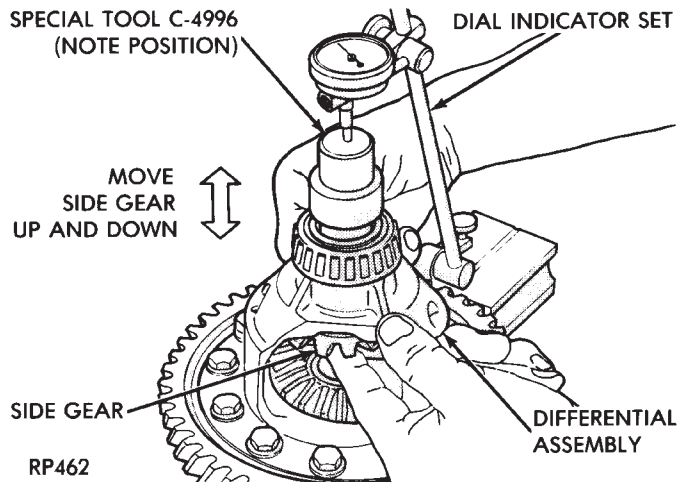
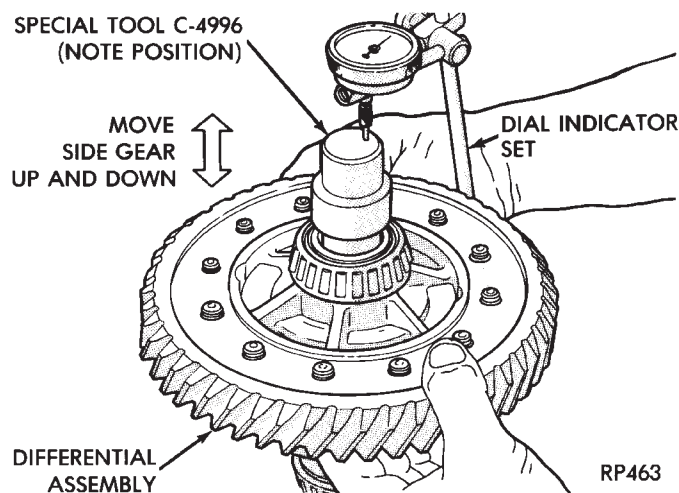

Fig. 124 Checking Side Gear End Play (Typical)
Fig. 125 Checking Side Gear End Play (Typical)
(4) Rotate the assembly two full revolutions both clockwise and counterclockwise.
(5) Set up dial indicator as shown and record end play (Fig. 124) (Fig. 125). Rotate side gear 90 degrees and record another end play. Again, rotate side gear 90 degrees and record a final end play.
(6) Using the smallest end play recorded, shim that side gear to within 0.001 to 0.013 inch. The other side gear should be checked using the same procedure.